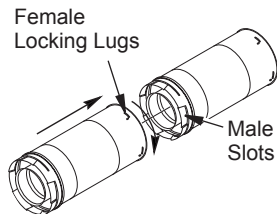

Figure 8 - Vent Pipe Connections
**Twist-Lock Procedure:** Female ends of pipes have locking lugs (indentations). These lugs will slide straight into matching slots on male ends of adjacent pipes. Push pipe sections together and twist one section clockwise approximately one-quarter turn until sections are fully locked (see Figure 8).
- Assemble desired lengths of pipe and elbows necessary to reach from fireplace flue up through firestop. Be sure all pipe and elbow connections are fully twist-locked (see Figure 8, page 12).